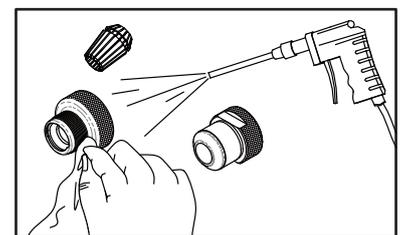
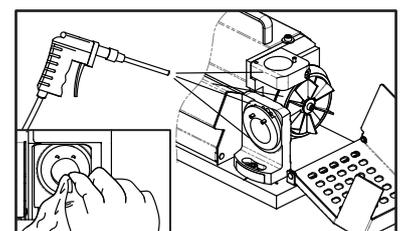

Fig. 12-4
Fig. 12-5
① Unplug the power cord and make sure the power is off.
② Disassemble the chuck set after use.
③ Use the air press gun to clean the scraps and dust out of all grinding shelves and all the accessories. (Fig. 12-4) (Fig. 12-5)
(Fig. 12-4) (Fig. 12-5)